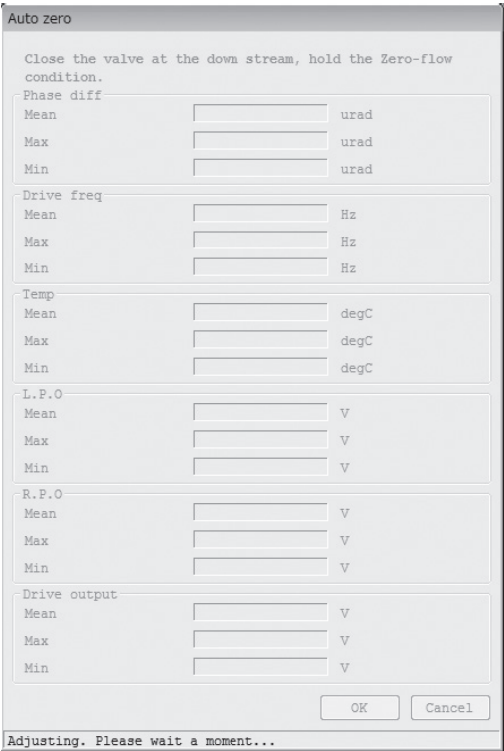

Fig.139
- ④ Click the "OK" button to adjust the zero point. While this adjustment is occurring, a message at the bottom of the window will indicate that the system is "Adjusting. Please wait", as shown in Fig. 139.